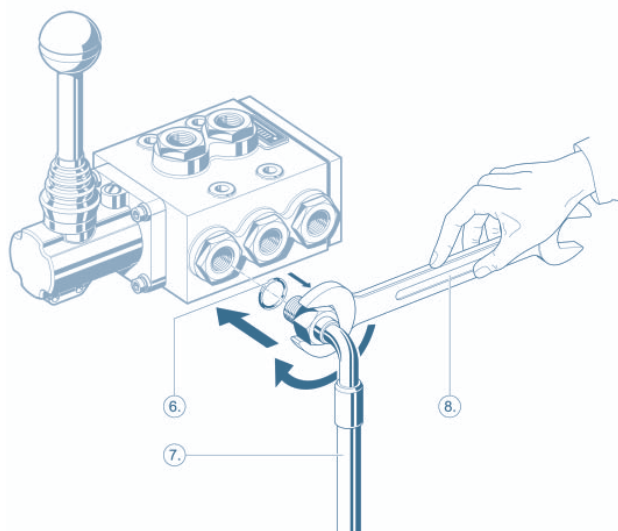

Figure 3. Using ghosting to highlight relevant detail
- Ghost representations (Figure 3)